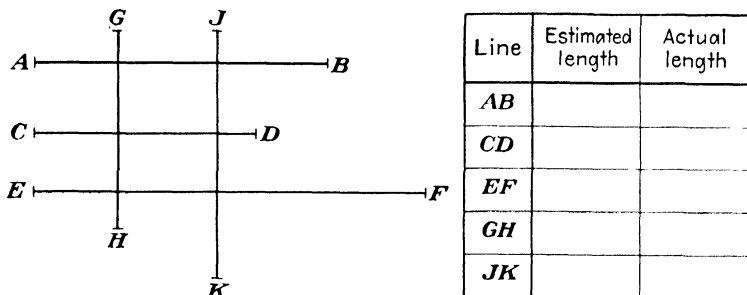

Fig. 10.
7. How well can you estimate the length of the lines in Fig. 10? Write down your estimate *in your own notebook*; then measure each line to the nearest 32nd.